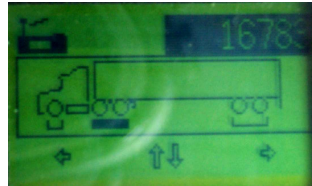

Figure 6
5. Hold **Center and Up** buttons for five second to **enter sensor numbers**. Use ↔ arrow buttons to toggle between axle groups and the ↓ arrow buttons to change the sensor numbers (Fig. 6, Page 6). Press **Center** button to confirm your selection and return Home screen.